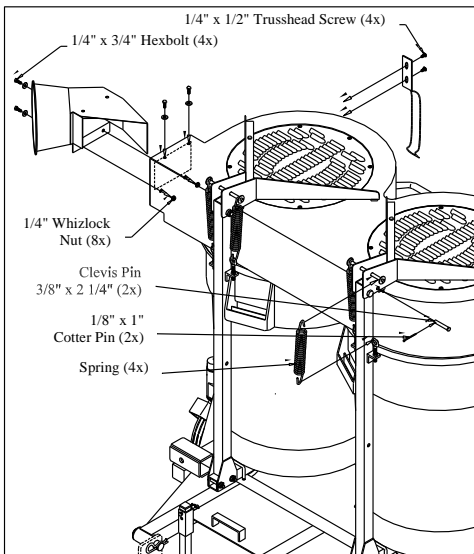

Fig. 7
7. Pivot top up and attach springs (22) to eyebolts (44) and spring retainers on top support (12). Lower top assembly to operating position and immediately slip clevis pin (24) thru locking pinhole on top support. Secure pin with 1/8" x 1" cotter key. Attach container latch (20) to molded top with 1/4" x 1/2" truss head bolt and 1/4" whizlock nuts. Slip exhaust boot (15) into molded top and secure with 1/4" x 3/4" bolts, 1/4" flatwashers and whizlock nuts. With molded top assembly setting flat on the containers and latched, tighten all bolts left loose in earlier assemblies (vertical upright and FD-frame bolts). Once tightened rotate top up and down a few times to see if proper alignment has been achieved. If proper alignment was not achieved loosen vertical upright and FD-frame bolts and try again. See Fig. 7